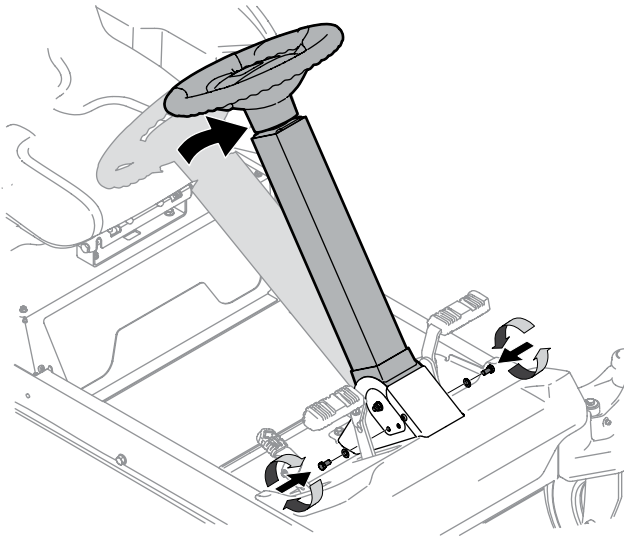

Figure 1
1. Place the steering wheel column in one of the two positions and secure in place with the hex screws and flat washers packed separately. See Figure 1.